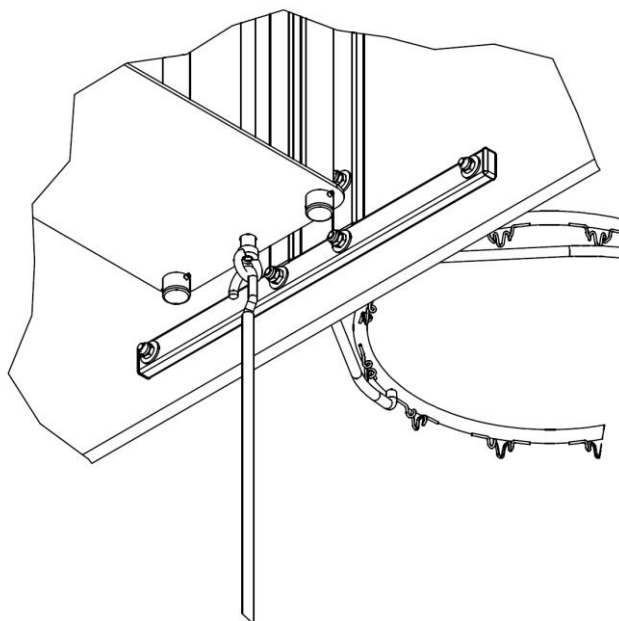

Figure 8: Operating the height-adjustment feature
To operate the height-adjustment feature, hook the winding handle (which must be ordered separately) into the relevant eyelet on the bottom of the basketball wall mount ①, as shown in figure 8.